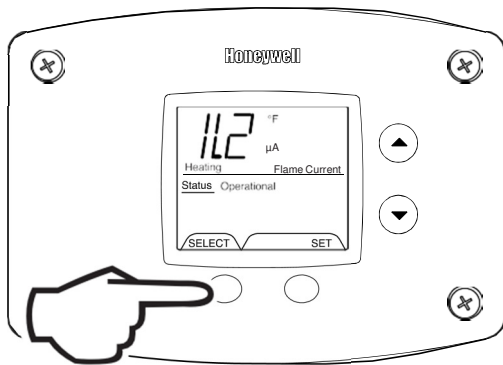

Figure 33
3. Flame Current of Pilot Flame Sensor (Displays only in the Heating Cycle) (Fig. 33).